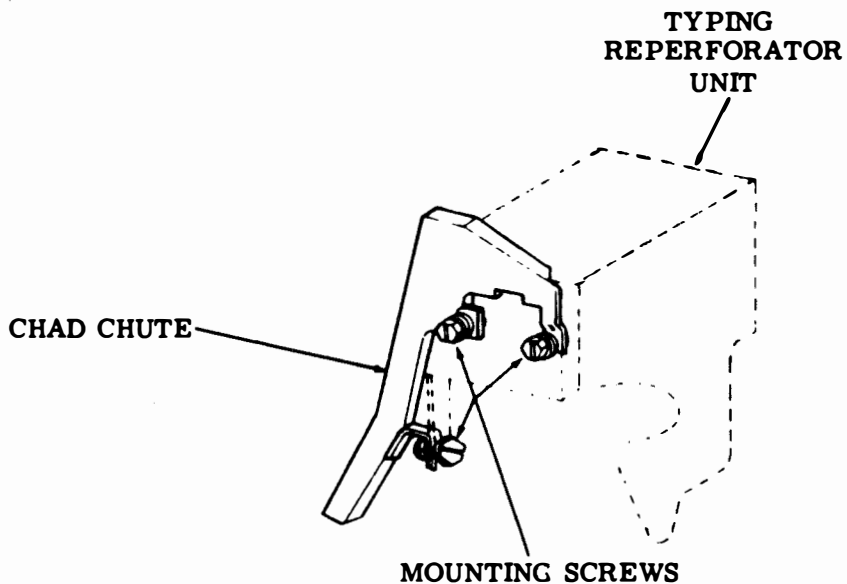
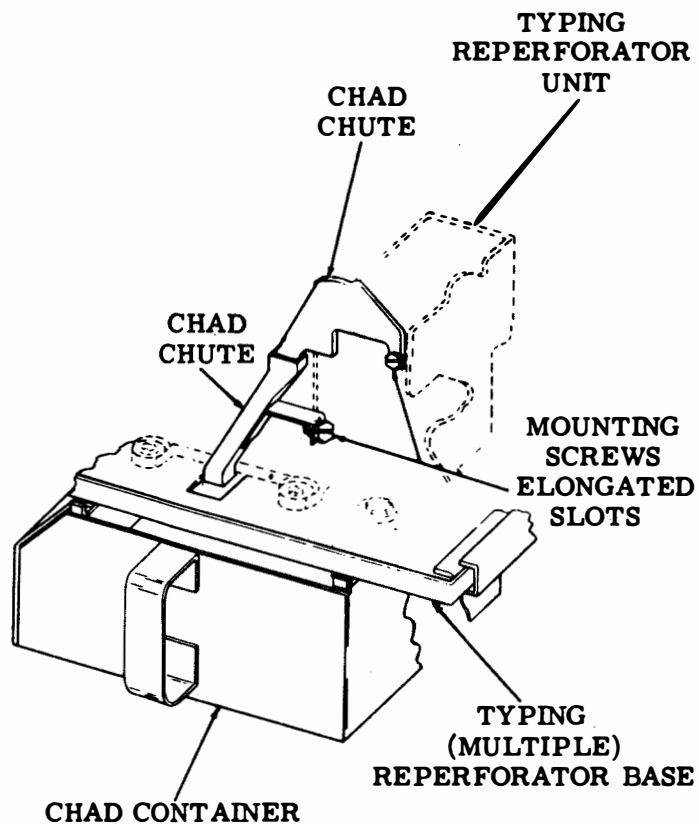

Figure 6-1. Chad Chute for Self-Contained Typing Reperforator Set (Left Side View)
Figure 6-2. Chad Chute for Multiple Typing Reperforator Set
(1) Chad Chute for Self-Contained Typing Reperforator Set. Adjust as follows:
- (a) Refer to figure 6-1.
(2) Chad Chute for Multiple Typing Reperforator Set Adjust as follows:
- (a) Refer to figure 6-2.